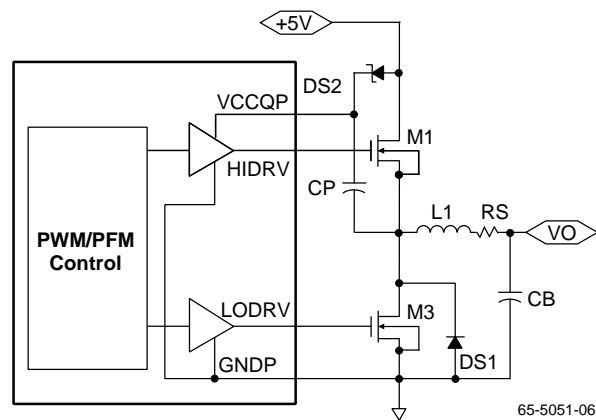

Figure 3. Charge Pump Configuration
Figure 3 employs a charge pump to provide gate bias. Capacitor CP is the charge pump deployed to boost the voltage of the RC5051 output driver. When the MOSFET switches off, the source of the MOSFET is at -0.6V. VCCQP is charged through the Schottky diode to 4.5V. Thus, the capacitor CP is charged to 5V. When the MOSFET turns on, the source of the MOSFET voltage is equal to 5V. The capacitor voltage follows, and hence provides a voltage at VCCQP equal to 10V. The Schottky diode is required to provide the charge path when the MOSFET is off, and reverses bias when VCCQP goes to 10V. The charge pump capacitor (CP) needs to be a high Q, high frequency capacitor. A 1μF ceramic capacitor is recommended here.